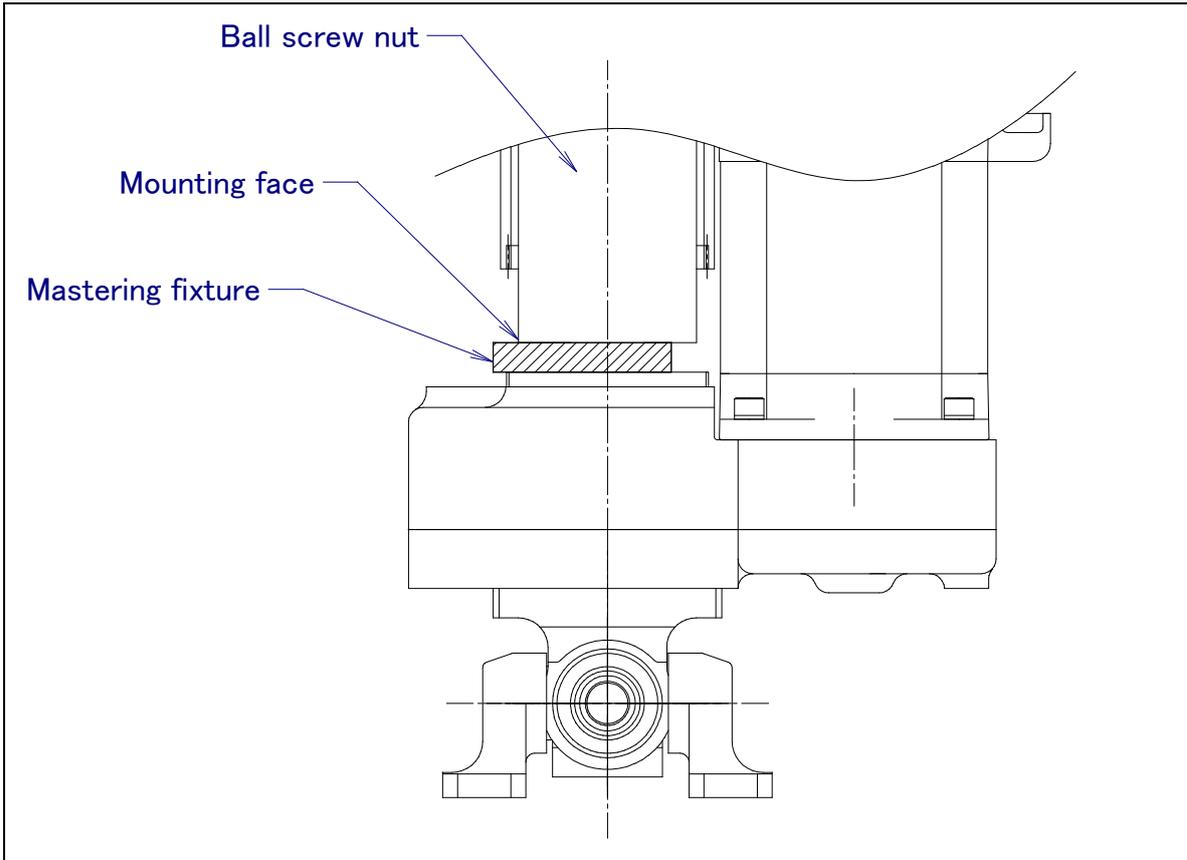

Fig.5.1.3 (c) Bringing the ball screw nut in contact
- 10 As shown in Fig. 5.1.3 (c), use Each axis to move the tool in the minus direction along the axis for which mastering is to be performed, to bring the bottom face of the ball screw nut in contact with the top face of the mastering fixture. Release brake control.